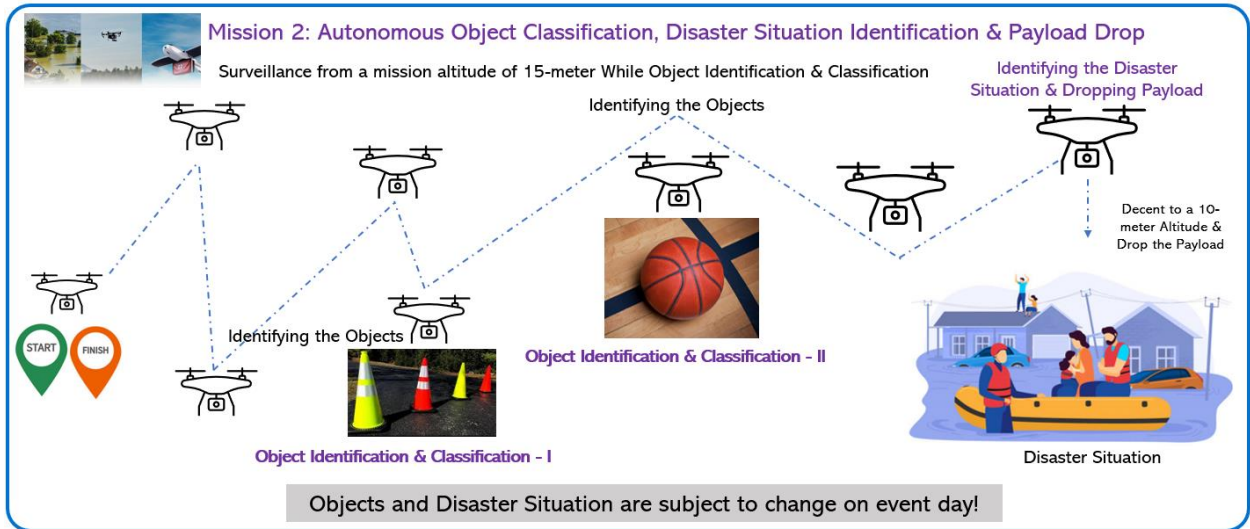

Figure 3 - Flight Mission 2 – Autonomous Mission Profile
- Please refer to Section 5.6 for detailed scoring criteria. The course for autonomous operations is shown in Figure 3; however, field conditions may vary.